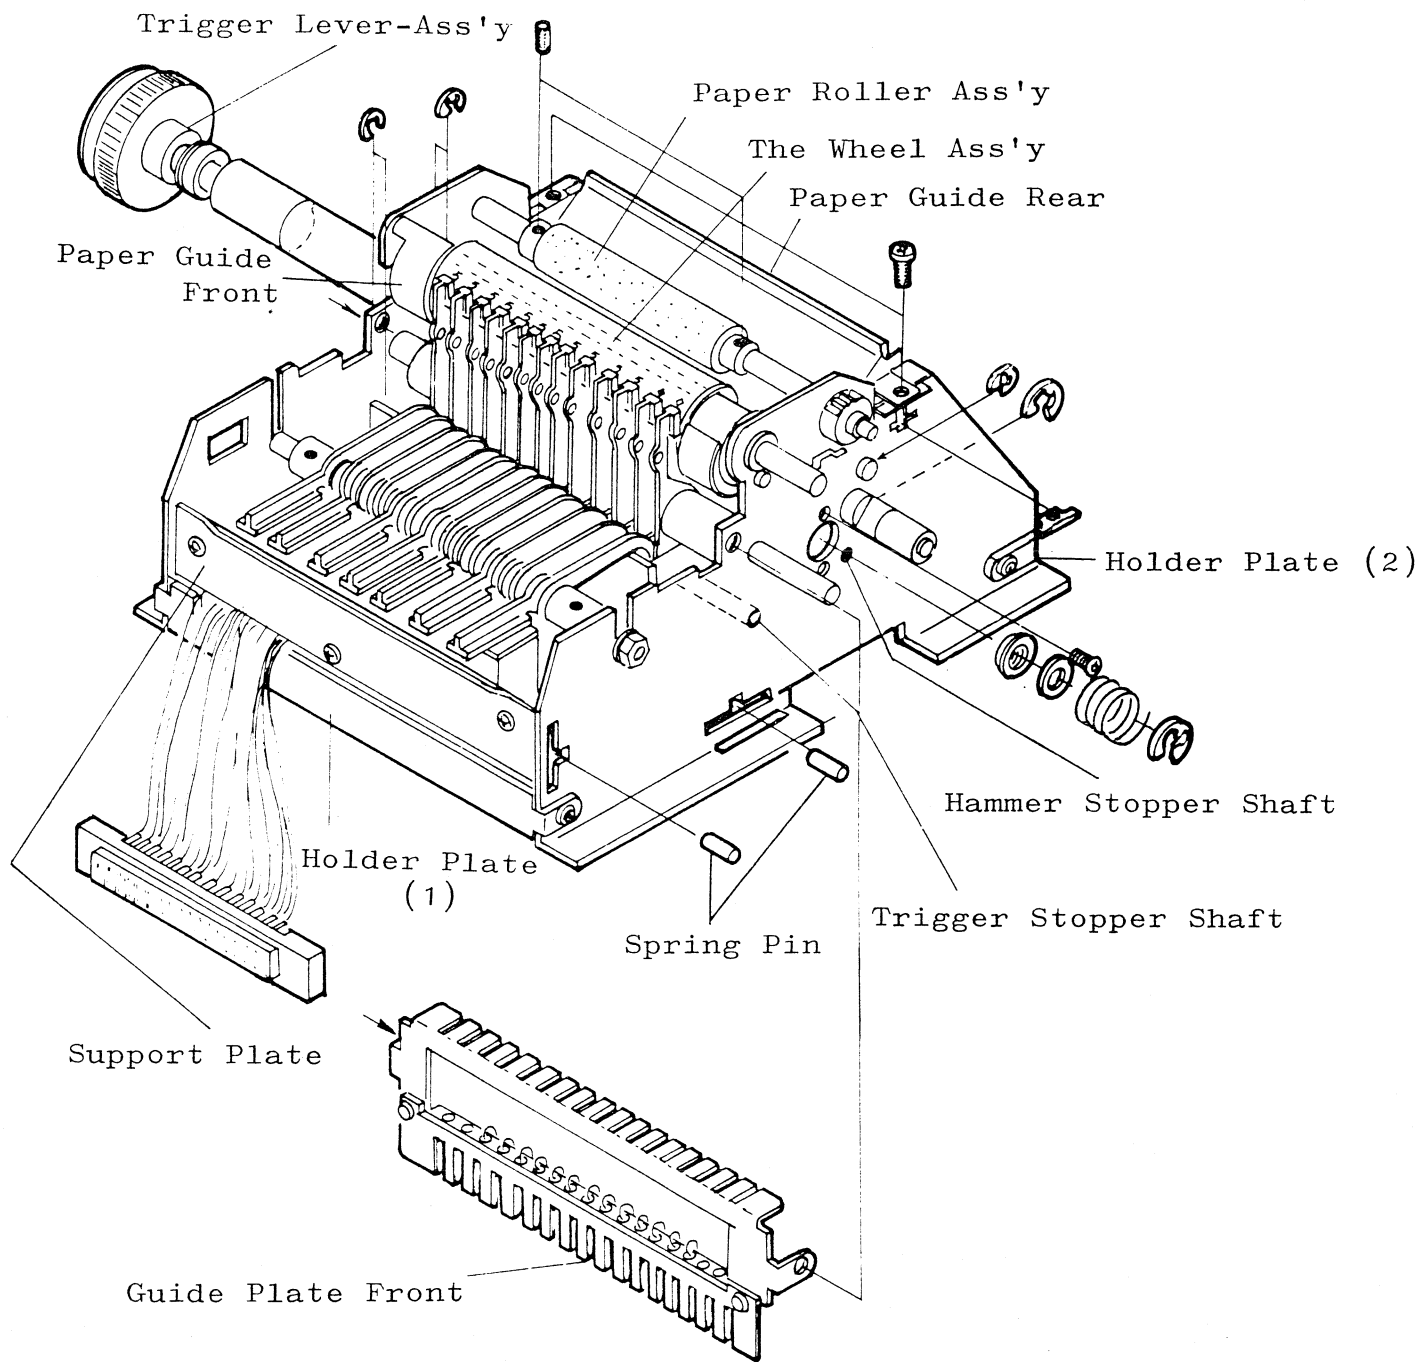

Fig. 2
- 6 - 3       Loosen 2 screws on the typewheel (Fig. 2).